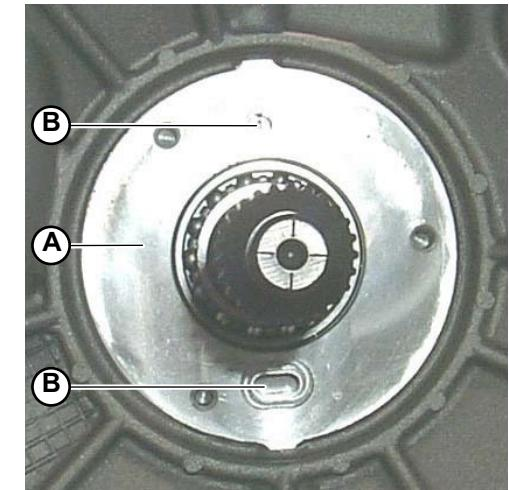

Fig.7
2. Thoroughly clean the machined area (A-Fig.7) of the clutch sleeve housing on the clutch bell and the seats of the O-rings (B-Fig.7).